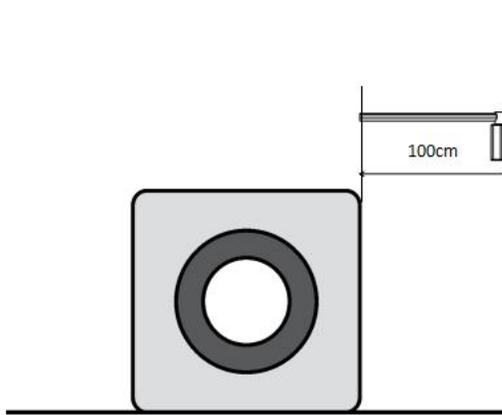

Figure 9.3-3 Distance of CT
- 4) The wall mount system can be installed on both sides of the CT, the distance between CT and device is not less than 100cm as Figure 9.3-3 or 100-185cm Figure 9.3-4, it is recommended to determine the installation distance according to the actual scene to ensure the maximum swing